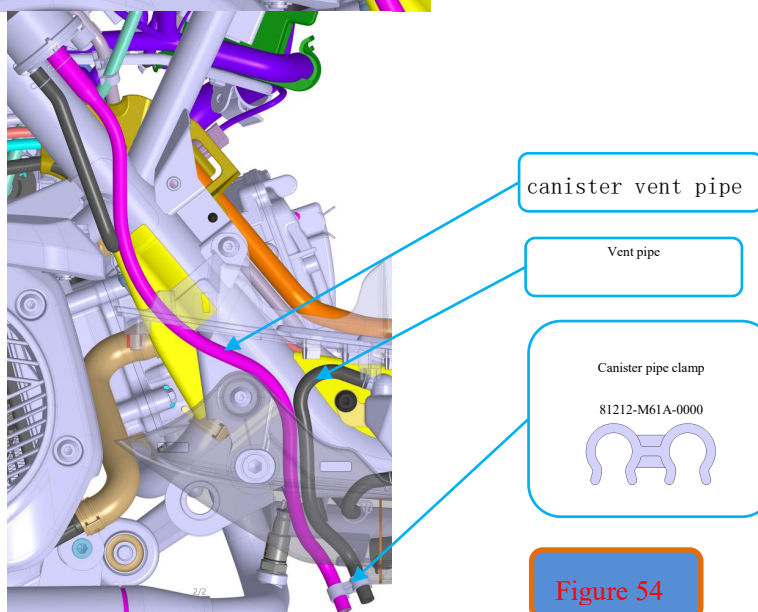

Figure 54
- (3) Fasten the canister vent pipe and vent pipe together using a canister pipe clip (81212-M61A-0000); see Figure 54.